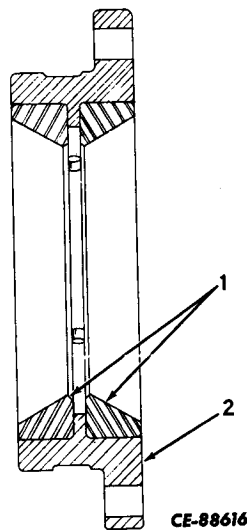

Figure 6-20
If new bearing cups (1, Fig. 6-20) are to be installed, press the cups firmly against pinion bearing cage (2) shoulders.